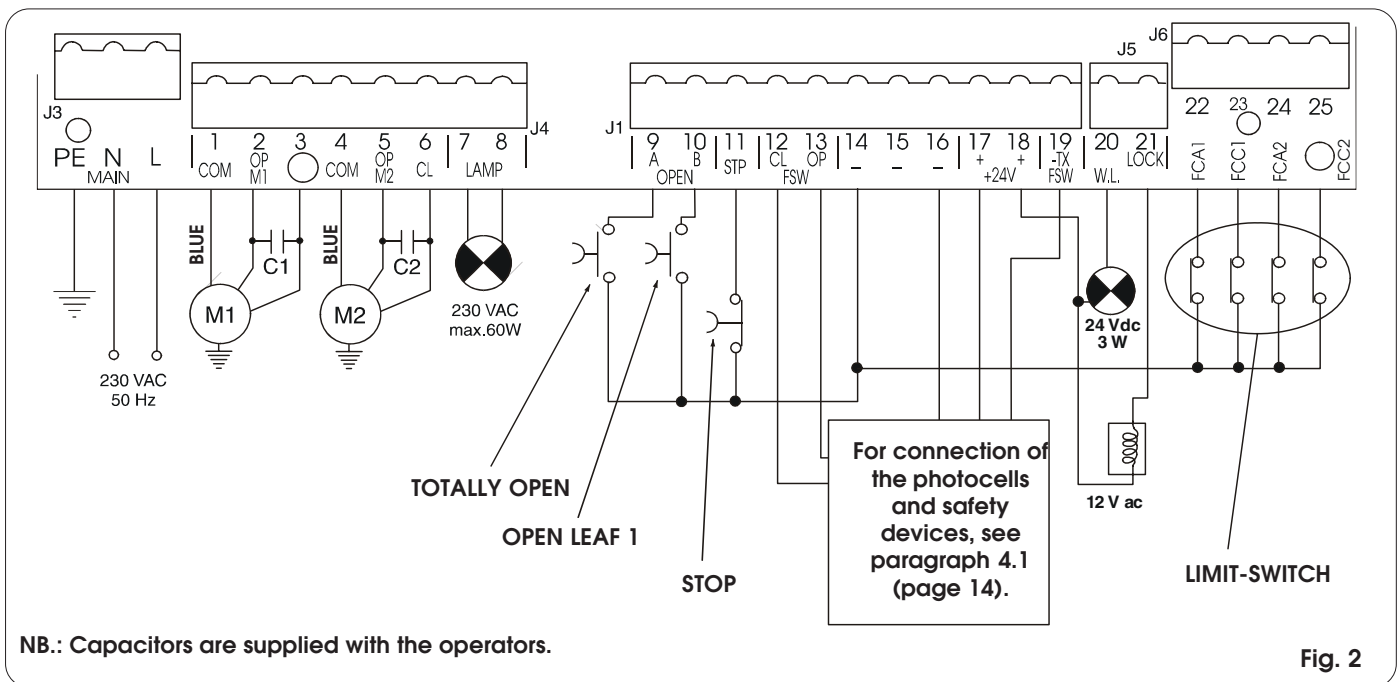

Fig. 2
- Connect the earth cable to the appropriate terminal on the J3 connector of the equipment (see fig.2).
4.2. TERMINAL BOARD J3 - POWER SUPPLY (FIG. 2)
4.3. TERMINAL BOARD J4 - MOTORS AND FLASHING LAMP (FIG. 2)
4.4. TERMINAL BOARD J1 - ACCESSORIES (FIG. 2)
4.5. TERMINAL BOARD J5 - INDICATOR-LIGHT AND ELECTRIC LOCK (FIG.2)